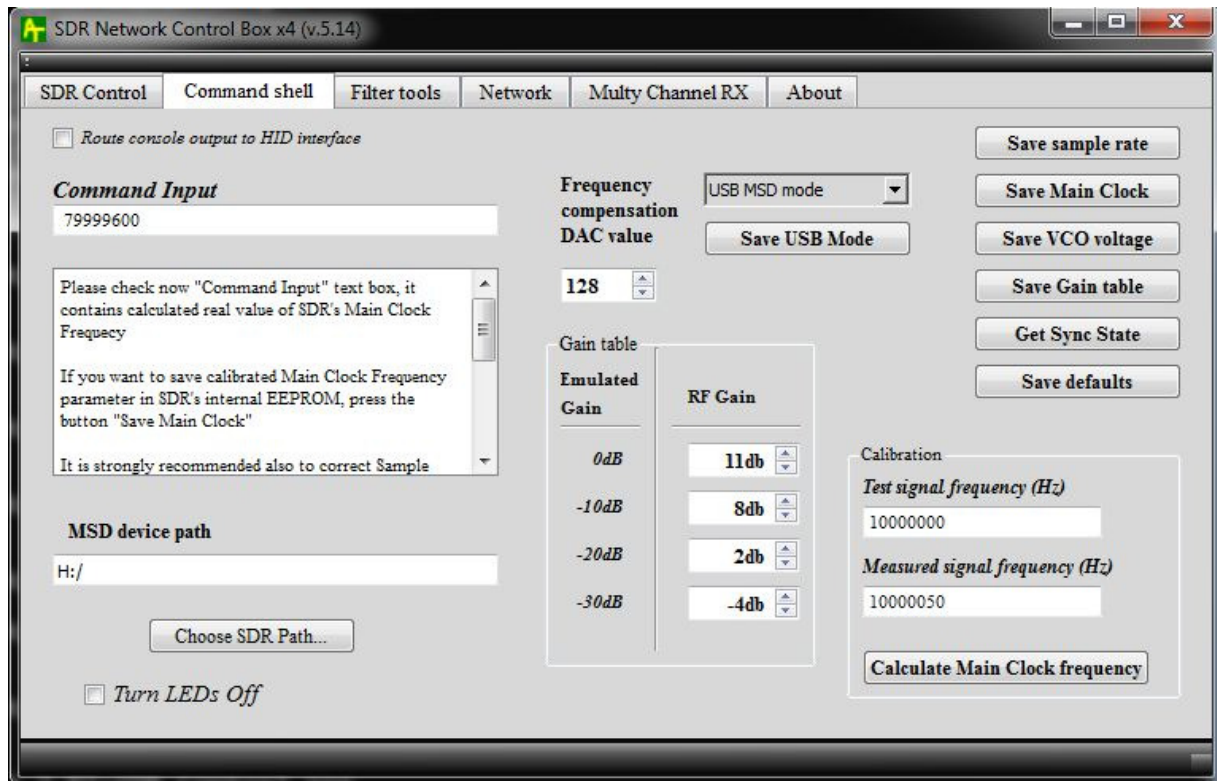

Figure 5 Calibration procedure
- In the text window “Test signal frequency” input the reference generator frequency value (see Figure 5).
- In the text window “Measured signal frequency” insert measured using SDR application waterfall value (see Figure 5).
- Press the button “Calculate Main Clock frequency” to calculate real main clock frequency value. The result is shown in the “Command input” window (see Figure 5).